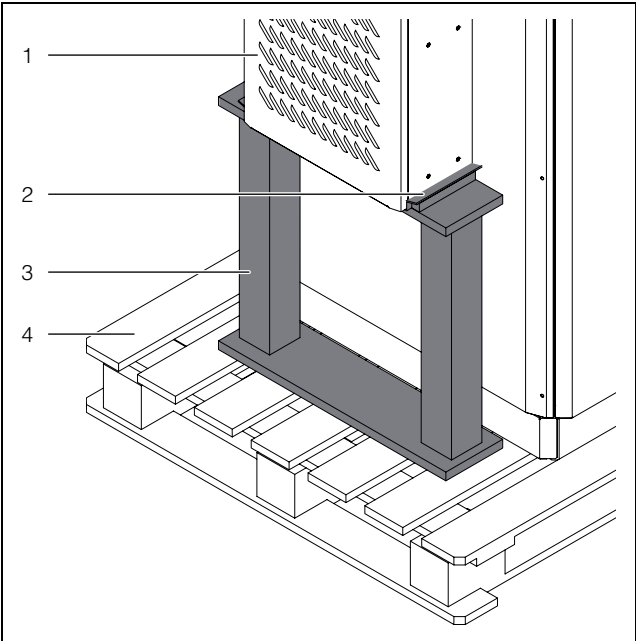
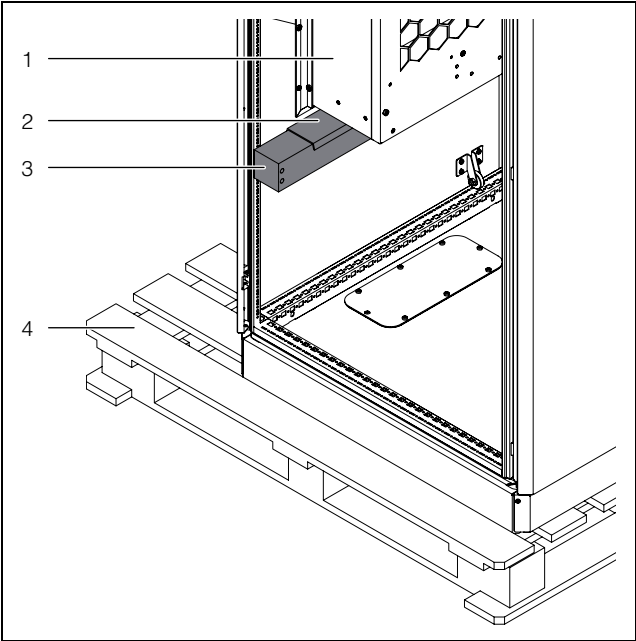

Fig. 4: External mounting of the shipping braces
Fig. 5: Internal mounting of the shipping braces
- Shipping braces (such as a structure made from square timbers or boards – fig. 4 and fig. 5) must be used when transporting cooling units already mounted on the enclosure. These braces support the cooling unit and prevent it from slipping in case of impact.